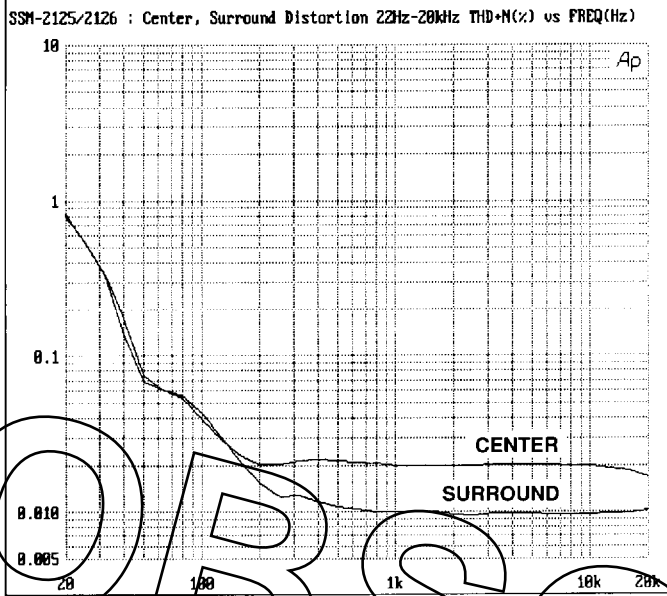

Figure 1. THD+N vs. Frequency, * Center and Surround Channels ($V_{IN} = 0 \text{ dBd}$, $R_L = 100 \text{ k}\Omega$)
*80 kHz low-pass filter used for Figures 1 and 2.